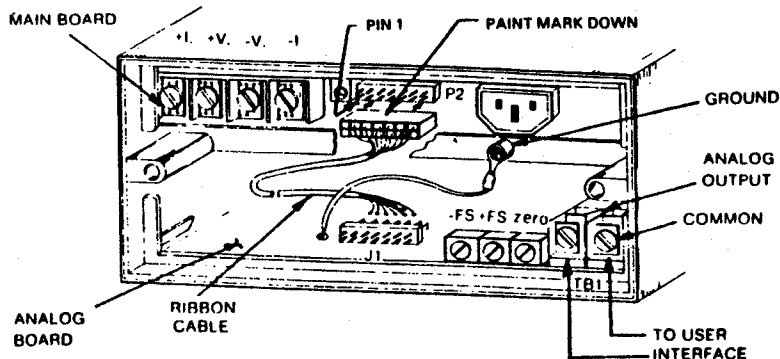

FIGURE 2-8. TYPICAL OPTION INSTALLATION, REAR VIEW OF INSTRUMENT
h. Connect ribbon cable P1 on the option board to connector P2 on the main board. Cable must be inserted so that paint stripe on plug is visible. See Figure 2-8.
j. For options 003A, 004A, and 005A only, connect ground lead terminated in spade lug from the option board to chassis ground screw as shown in Figure 2-8, then re-install rear cover. For Option 002A, fasten bracket on circuit side of pcb to chassis cross bar using chassis ground screw on cross bar, then re-install rear cover.